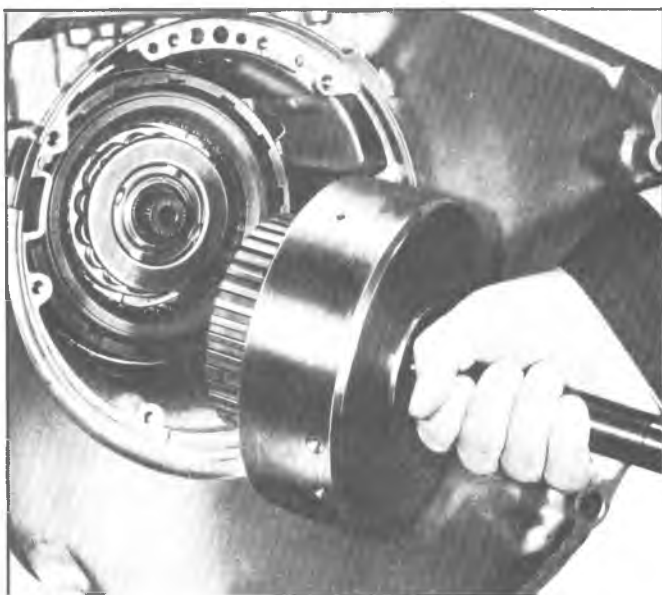

Fig. 137T--Installing Forward Clutch Assembly and Turbine Shaft
19. Install forward clutch assembly and turbine shaft; indexing direct clutch hub so end of mainshaft will bottom on end of forward clutch hub. When forward clutch is seated it will be approximately 1-1/4" from pump face in case (fig. 137T).